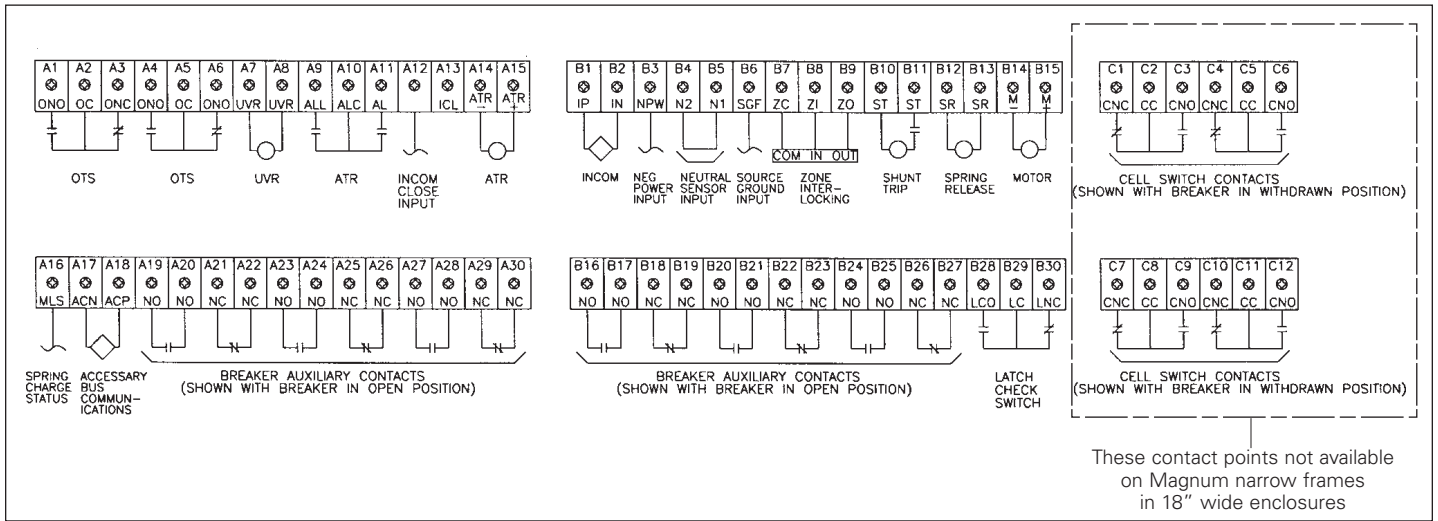

Figure 15a. Magnum DS secondary disconnect terminal arrangement
For Magnum standard frame breakers, applications with four (4) Form C contacts, the cell switch contacts are wired to C1-C12 (stationary secondary terminal blocks as shown in Figure 15a). When the second module of four (4) Form C contacts are required, they are connected with a mate and lock type plug located in the vertical wireway. With Magnum narrow frame breakers and Series NRX, the cell switch contacts are not dedicated and are wired to a remote terminal block in the adjacent wireway.
The upper front portion of each breaker cell is reserved for terminal blocks and control wiring connected to the secondary terminals of the circuit breaker (Figure 14). In UL1558 rated switchgear, this compartment is accessible by a door separate from the breaker. In UL891 rated switchboards, this compartment is accessible behind a larger breaker door that covers both compartments. Control wiring entering or leaving the cell is connected to terminal blocks in this compartment. With Magnum standard and narrow frame breakers, this area provides mounting for up to 72 termination points, (narrow frames in 18 inch wide enclosures are limited to 60 points); and with Series NRX up to 54 points for each of the two breakers. Factory connections are made on the rear side of these terminal blocks. Field connections are made along the front surface of these terminal blocks by folding down the hinged cover of the terminal block. A screw type terminal landing is provided. See Figure 15a for secondary disconnect terminal arrangement of Magnum breakers; Figure 15b for secondary disconnect terminal arrangement of Series NRX breakers.